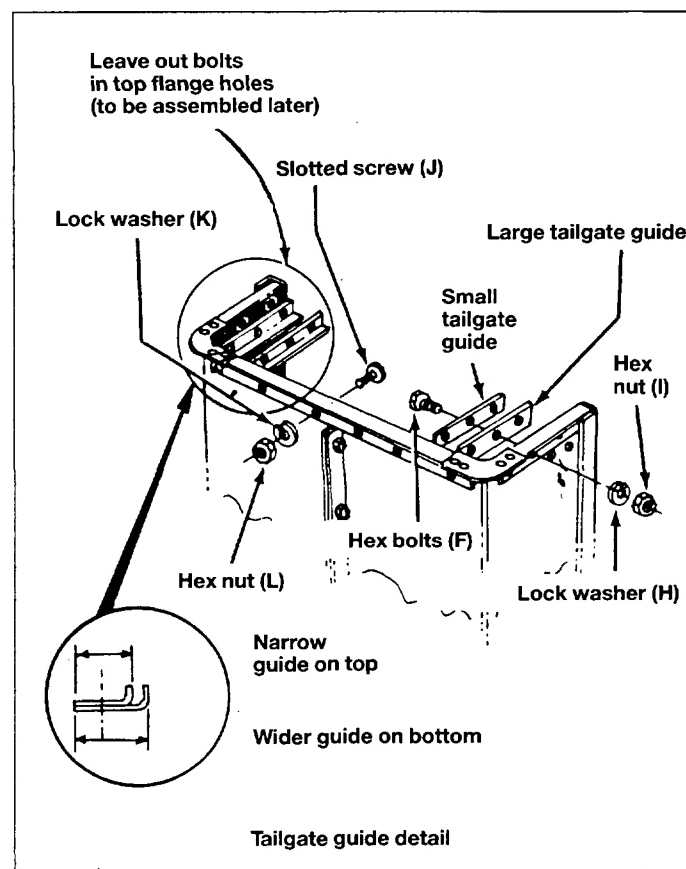

Fig. 5
7. Position the tailgate reinforcement bracket (Z) over end of cart. See figure 5.
8. Start slotted screws (J) through bottom of cart (heads of screws to the inside of cart) and reinforcement bracket. Secure finger tight with hex nuts (L) and lock washers (K). See figure 5.
9. Position the tailgate guides (S) so that the holes line up with reinforcement bracket and cart body. Refer to tailgate guide detail in figure 5.
10. Secure with six hex bolts (F) lock washers (H) and hex nuts (I). See figure 5.